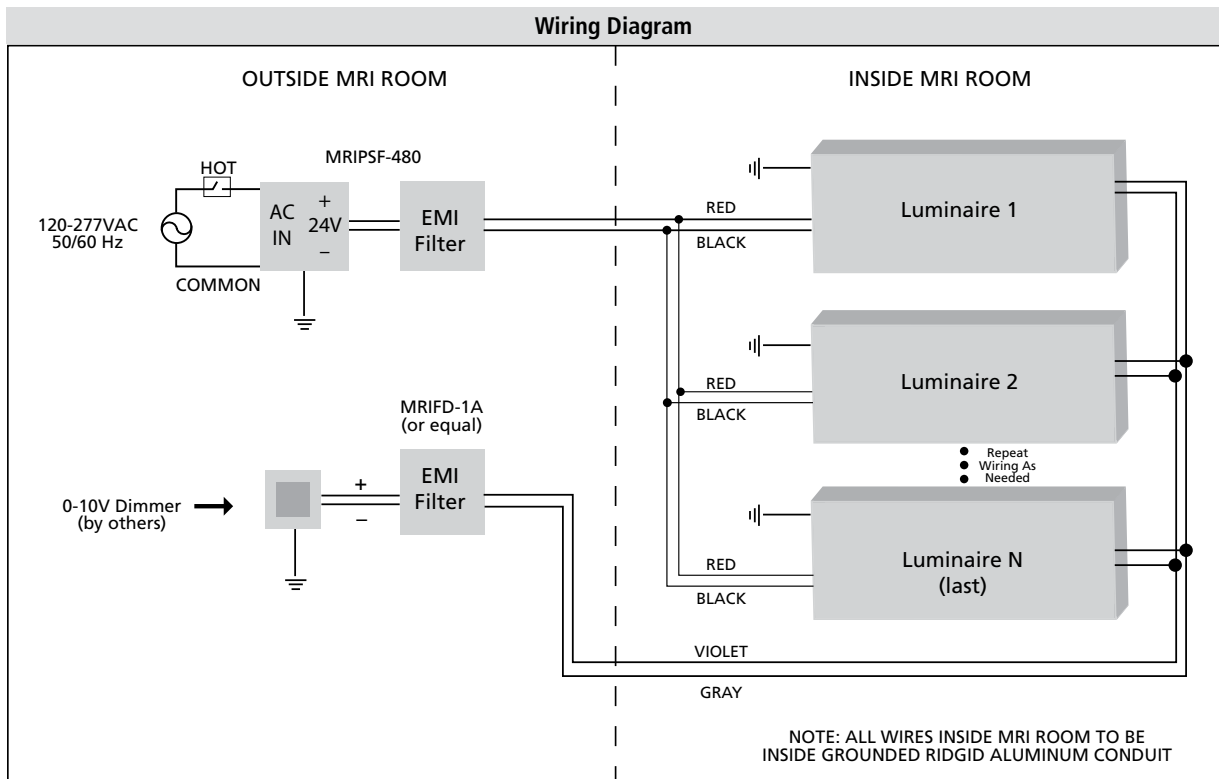

Figure 4
6. Run DC supply wiring, equal in size and temperature rating to the filter input wiring, between the filter output cables and the first luminaire within the shielded room. Follow recommended wiring layout described within Figure 4. All wiring must be within completely-enclosed, grounded conduit suitable for an MRI environment. Any gaps, regardless of size, must be closed or wrapped in copper foil tape. Special attention should be paid to the wiring entry point into the shielded space. Class 1 wiring methods are required.
7. Run the dimming signal wiring, equal in specification to the filter input wiring, between the filter output cables and the first luminaire within the shielded room. Maintain polarity between input and output sides of the filter and follow wiring recommendation in Figure 4. All wiring must be within completely enclosed, grounded conduit suitable for an MRI environment. Any gaps, regardless of size, must be closed or wrapped in copper foil tape. Special attention should be paid to the wiring entry point into the shielded space. Cap gray and violet leads at luminaire(s) if dimming function is not implemented.
- 12. Fill out the Installation Registration Form (attached to MRIPSF-480 instruction sheet) and fax to Kenall at (262) 891-9701.**